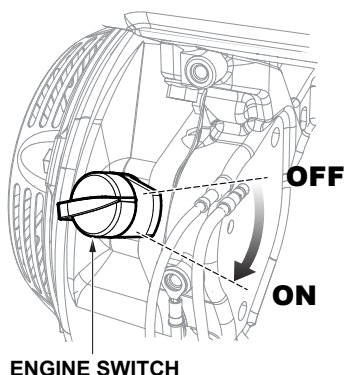

Figure 16. Engine ON/OFF Switch (ON Position)
- Place the engine ON/OFF switch (Figure 16) in the "ON" position.